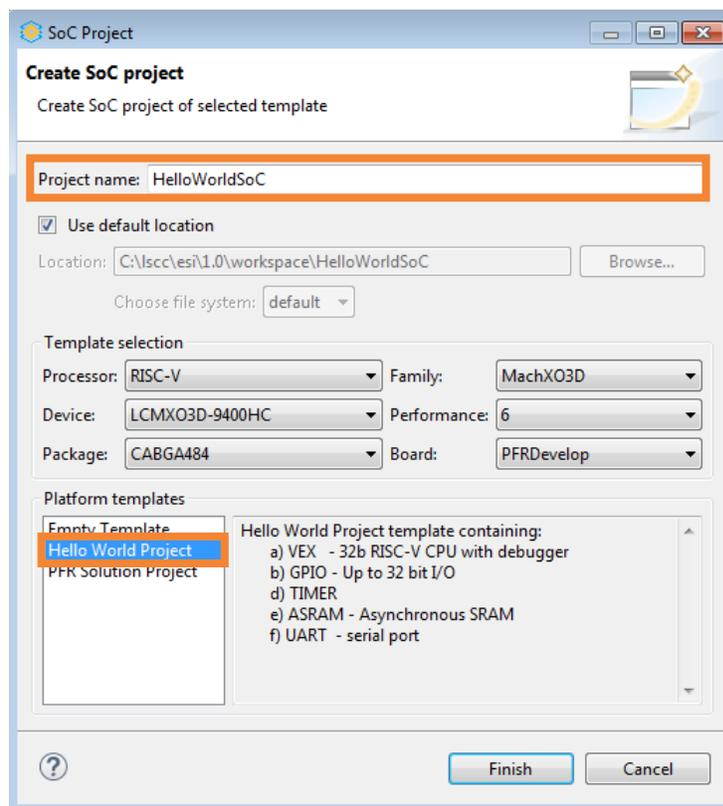

Figure 4.1. Create SoC Project Wizard
2. The SoC project wizard opens (Figure 4.1). Enter a project name, such as **HelloWorldSoC**. Select the **Hello World Project** template.